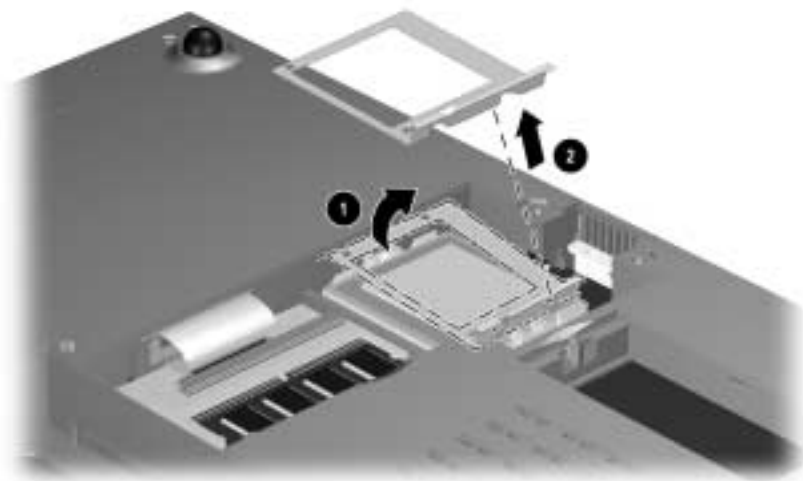

Figure 5-10. Removing the Processor Bracket
3. Swing the left side of the processor bracket up and to the right **①** (Figure 5-10).
4. Remove the processor bracket **②**.